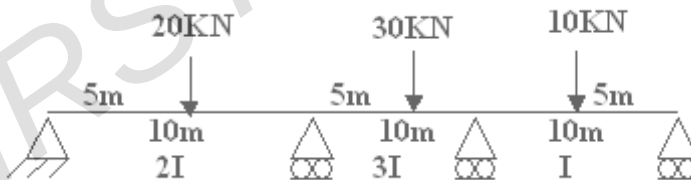

Figure 2
2. Analyse the continuous beam shown in figure 2. The downward settlements of supports B and C in t-m units are $150/EI$ and $75/EI$ respectively. Use stiffness method. [8+8]